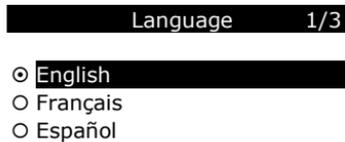

Figure 3.3
- 2) Use the **Direction** button to select the desired language and press the **OK** button to save your selection and return to previous screen. We provide three language options currently. (Figure 3.3)